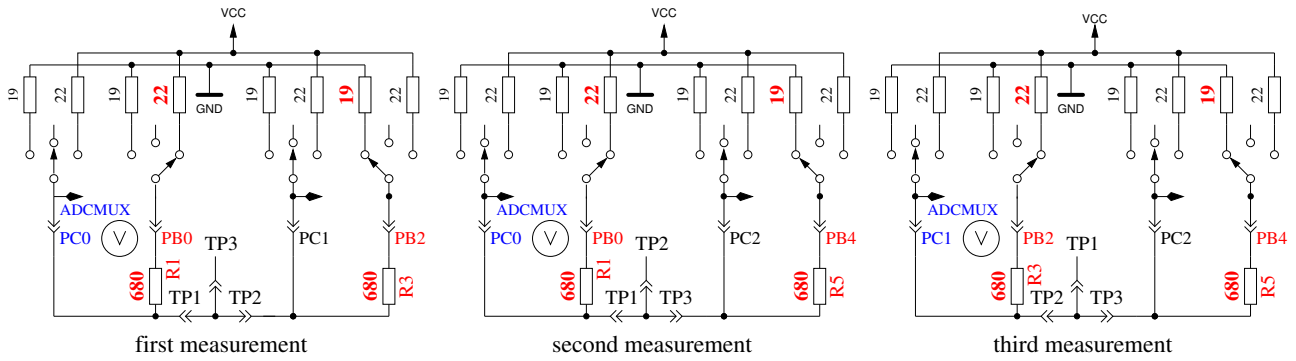

Figure 5.62. Comparison of 680Ω resistors
2. **Comparing of the 680Ω resistors.** In row 1 the cryptic text "+RL- 12 13 23" is shown. Meaning of this is as follows: The RL is the short form of Resistor Low meaning the 680Ω resistors. The 12 stand for: resistor at pin 1 is connected to VCC (+) and resistor at pin 2 is connected to GND (-). The result of this measurement is displayed in row 2 at the first place as difference to the theoretical value. In row 1 follows now a "13" which means, that the first connection of measurement 1 is still connected with 680Ω to VCC but that the resistor of pin 3 is connected to GND. The result is displayed in the middle place of row 2 as difference to the theoretical value. The last measurement of this test "23." means that now the resistor at pin 2 is connected to VCC (+) and the resistor of pin 3 is connected to GND. The result of measurement is displayed at the last place of LCR row 2 as difference to the theoretical value. Please remember, that the resolution of the ADC is about $4.88mV$! The measurement situation is also shown in figure 5.62. The theoretical value with respect to the internal resistance of the pins should be: